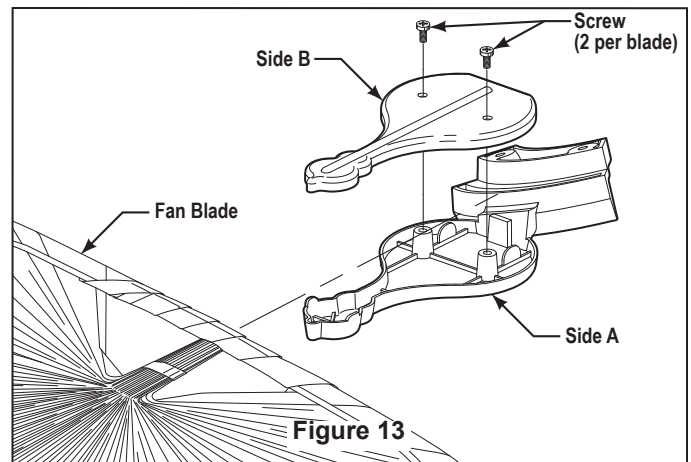

Figure 13
6. Tighten both screws to secure the blade. (Figure 13)